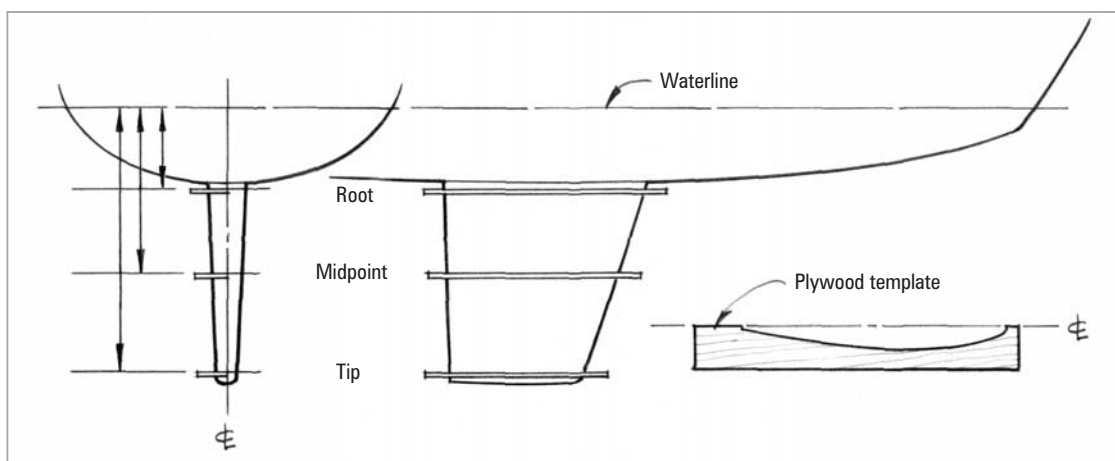

Figure 13 Obtain the profiles for three locations on the keel: the root (top of the keel near the hull attachment point), the midpoint and the tip of the keel.
1. Transfer the full size profiles to ½" A/C-grade plywood (*Figure 13*). Cut out the three templates with a band saw or saber saw and sand the edges of the foil shape carefully to eliminate any bumps or unfairness. Mark the keel's centerline on each end of the template. Seal the profile edge of the templates with a coat of epoxy and sand them smooth after the epoxy cures.